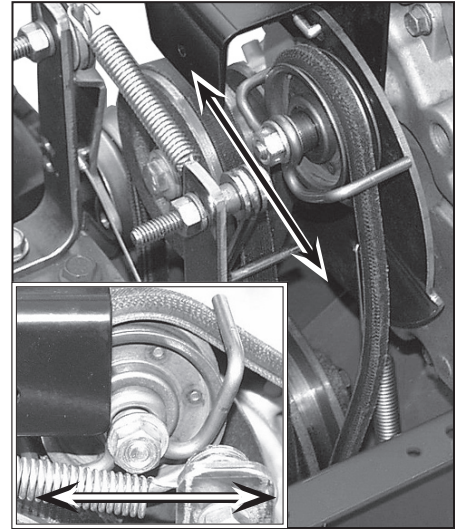

Figure 5-23: Reverse belt guide positioning.
6. (You will need an assistant to help with this step.) Pull the reverse idler pulley (N) up to its highest point and position the belt guide (R) horizontally level as shown in Figure 5-23. Securely tighten the screw